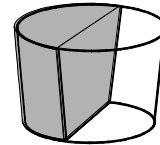

Figure 3
**C. Place Sample in Beaker:** Open your sample cup and put half of the sample into the beaker. Split the sample in half depth-wise as in figure 3 above.